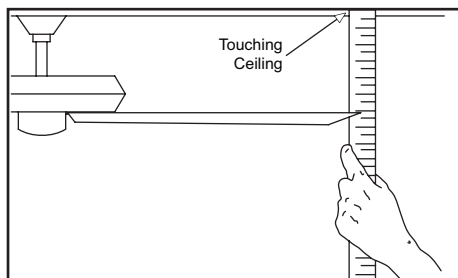

Figure 14
2. Most fan wobble problems are caused when blade levels are unequal. Check this level by selecting a point on the ceiling above the tip of one of the blades. Measure from a point on the center of each blade to the point on the ceiling. Measure this distance as shown in Figure 14. Rotate the fan until the next blade is positioned for measurement. Repeat for each blade. Measurements deviation should be within $1/8''$. Run the fan for 10 minutes.